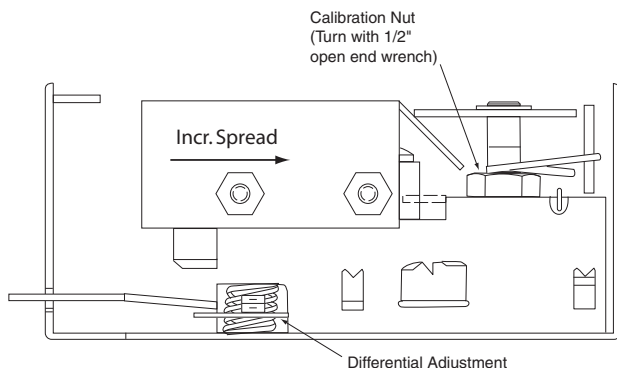

Figure-15 Adjustments.
The differential is adjustable by turning the adjuster located on the side of the device (see Figure-15).
4. Turn the calibration nut (located under dial) until the temperature of the bulb is indicated on the dial (see Figure-15).